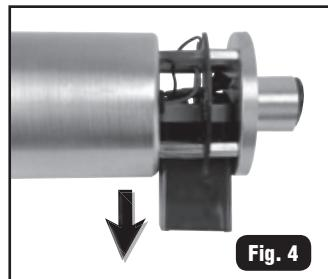
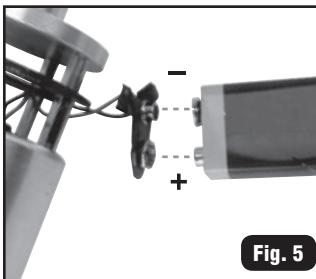

Fig. 4
Fig. 5
3. Slide the battery out of its slot (Fig. 4) and replace with a new battery (9V), ensuring connection with correct polarity (Fig. 5).